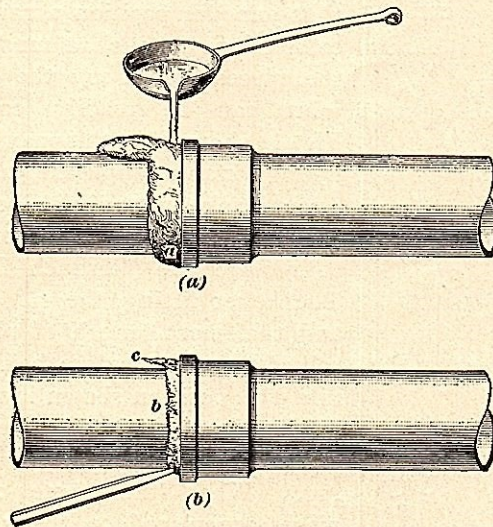

FIG. 10
**10. Calking a Horizontal Joint.**— In making horizontal joints, or joints on inclined pipes, the outer end of the socket must be closed by a band or joint runner, as shown at *a*, in Fig. 10 (*a*). If a special joint runner is not at hand, the band is usually made of clay and strengthened by a piece of rope embedded in the clay. A **gate**, or pouring notch, is left at the top, and molten lead is poured into it from the ladle, as shown. The working face of the clay is
shaped so that the lead will take the form shown in Fig. 10 (*b*) at *b*, the projection *c* being the gate. Pouring should not be stopped until the gate is full and remains so. Particular care should be taken before pouring that the socket be wholly free from moisture; otherwise, an explosion is very likely to occur while the lead is running in, by the moisture being suddenly converted into steam. To guard against this danger, the workman should always stand behind the